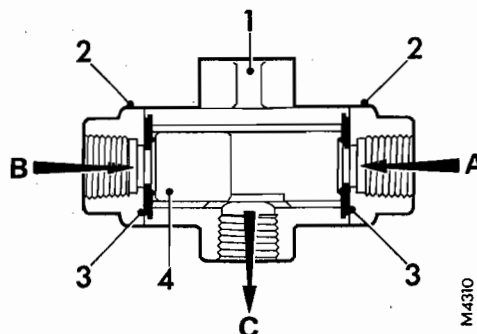

FIG. 1 SECTION THROUGH DOUBLE CHECK VALVE
1. Connect an air supply, which can be varied between 0.703 to 7.03 kgf/cm2 (10 to 100 lbf/in2) to ensure perfect sealing under all conditions, first to connection 'A' Fig. 1, and note that a free flow is obtained at connection 'C'. The latter should then be plugged and all joints and connection 'B' should be tested for leakage with soap and water.